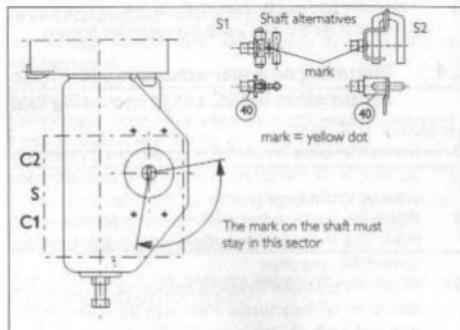
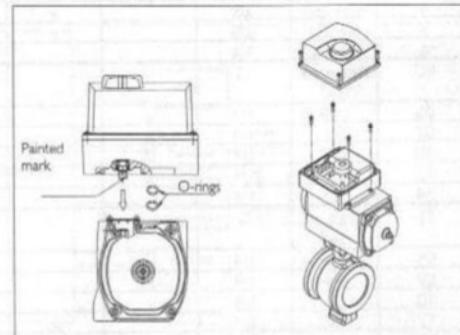

Fig. 4. Mounting on Metso Automation actuator with VDI/VDE mounting face
Fig. 5. Mounting on EC and EJ actuators
Shaft alternatives for the controller for Metso Automation actuators are shown in Figs. 4 and 5.
- Set the direction arrow in the direction of the valve closure member and attach the draught piece (2) to the indicator cover in the position shown in Fig. 4. Secure the screw of the draught piece e.g. with Loctite and tighten it sufficiently.
- Attach the bracket (1) to the ND820.
- Attach the bracket (1) to the actuator. The shaft (40) of the ND820 must fit into the draught piece (2) shown in Fig. 5. See also drawings in Section 11.3.
- Mount the O-rings (38) into the air connections in the bottom of the controller.
- Place the valve controller on top of the actuator so that the yellow mark is located in the position shown in Fig. 5. See also Fig. 16.